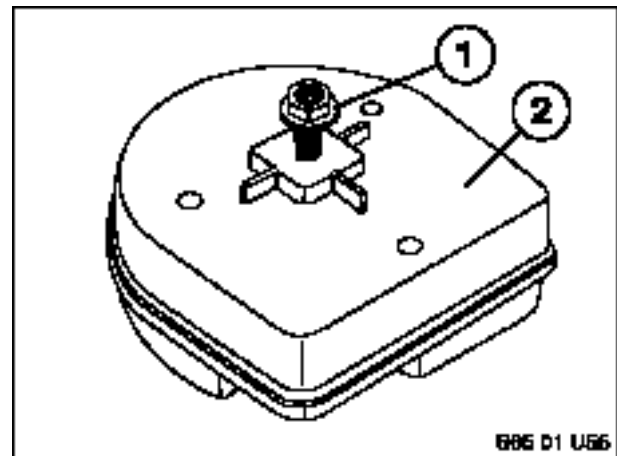

Figure 4
- 1.7 See Figure 4. Partially install (two complete turns is sufficient) M6 nut with captive flat washer (1) to M6 threaded stud on alarm siren (2) as shown.)